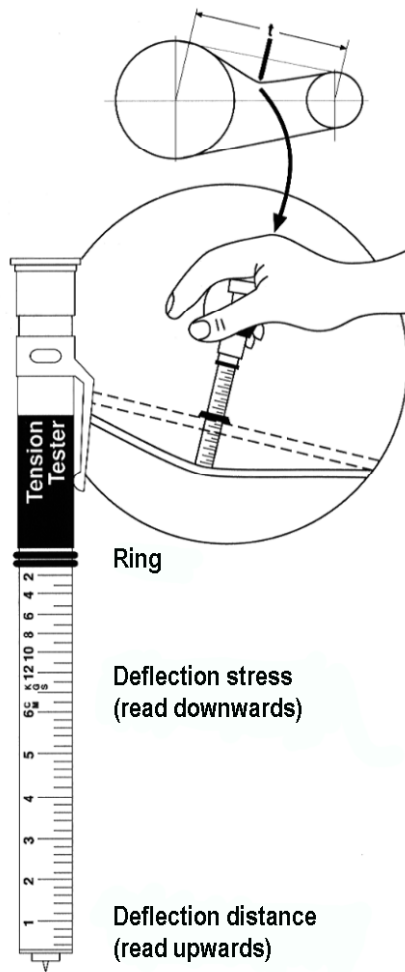

Fig.5
- Place the surface tension meter perpendicularly in the centre of the tension length, as shown in Fig 5. Firmly tighten to bend the belt 1 mm for every 100 mm of tension length. Read the bending distance from the top part of the belt, with a rule above the belts to ensure accurate readings.